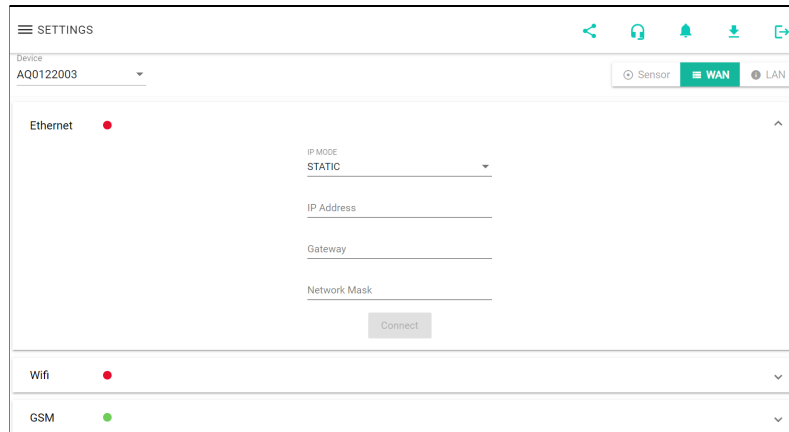

Figure 4.21 Ethernet configuration
- Step 4** From the dropdown menu, select DHCP or Static. In the case of Static connectivity enter the details as shown in Fig 4.21.